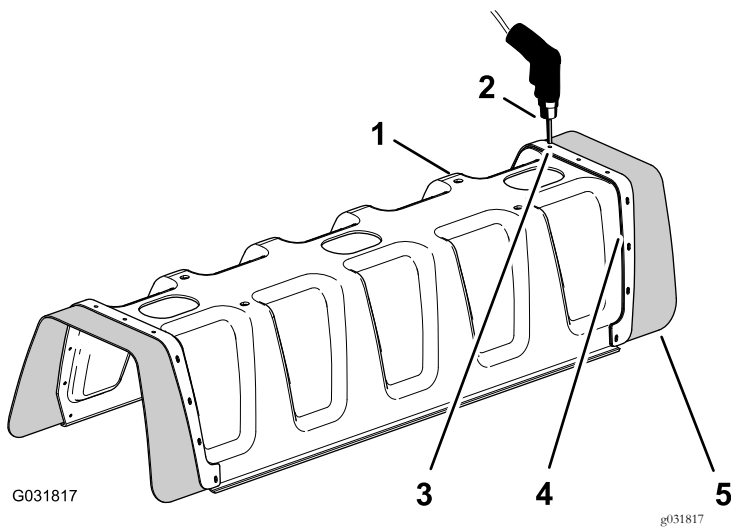

Figure 179
1. Using a drill with an 5 mm (3/16 inch) drill bit, drill the 11 pop rivets (Figure 179) that secure the reinforcement plate (single row) and rubber cover to the end of the 11-nozzle section cover for the center boom section that you removed in step 2 of 6 Removing the Center Section Cover (11-nozzle) of the Optional Covered-Boom Kit (page 13).
- Remove the reinforcement plate, 11 washers (3/16 inch), and rubber cover from the 11-nozzle boom cover (Figure 179).